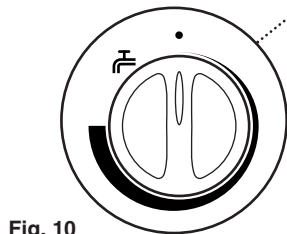

Fig. 10
4. **Domestic Hot Water:** The temperature of the domestic hot water can be adjusted by turning the control knob clockwise to increase up to a maximum of 65° C (Fig. 10).